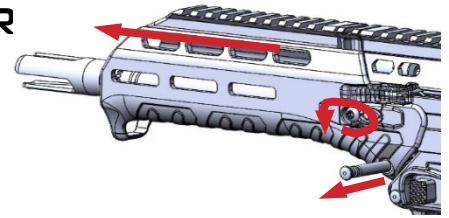

Figure 32: Removing Handguard
1. Using the T25 side of the multi-tool, loosen the handguard retention screws. Press the captured handguard retention pin through from the right side to the left side of the WLVRN receiver until it snaps into position. (Figure 32)
2. Slide the handguard off the front of the WLVRN. (Figure 32)